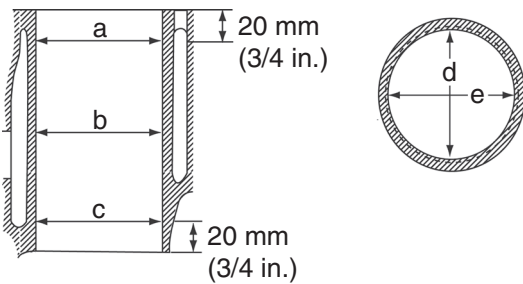

Figure 6-110
- Take measurements at three places (**Figure 6-110**) (a, b, c), and in two directions (d and e) in each cylinder.